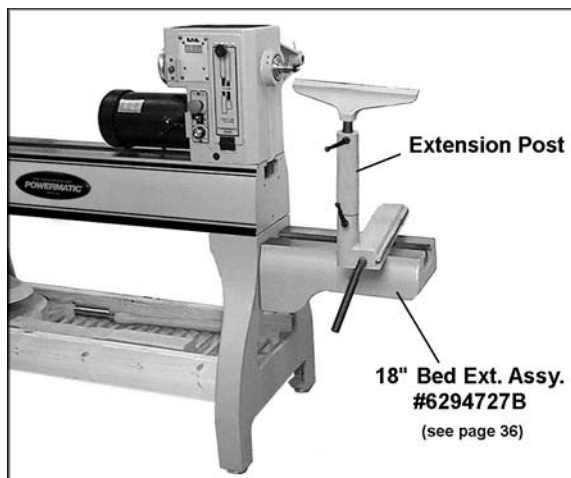

Figure 9
For outboard turning, where the headstock is moved to the opposite end of the Lathe to accommodate large bowl blanks, you can (1) mount the 18" bed extension to the three lower holes on the Lathe frame, and (2) mount a vertical extension post [included with the optional bed extension] to the tool rest base. See Figure 9.